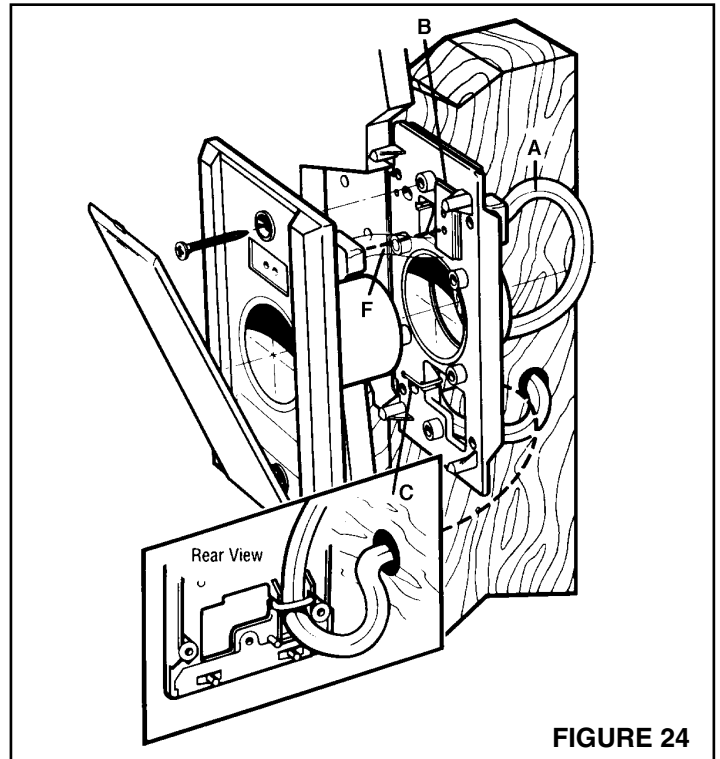

FIGURE 24
1. See Figure 24. Fasten the mounting plate to a stud within three studs (48") of an electrical outlet box. Measure and mark the wire 10" from the plug (A). Feed the wire through the top hole in the mounting plate (just above the circular opening). Snap the molded plug into the mounting plate as pictured (B). This will keep it secure and out of harm's way during drywalling and finishing. Line up the wire at the previously measured 10" mark with the strain relief channel on the back of the mounting plate. Secure it in place with the supplied wire tie (C).
2. Run the inlet wire to the adjacent electric box. If you must run wire through a stud, drill directly through the center of the stud (D).